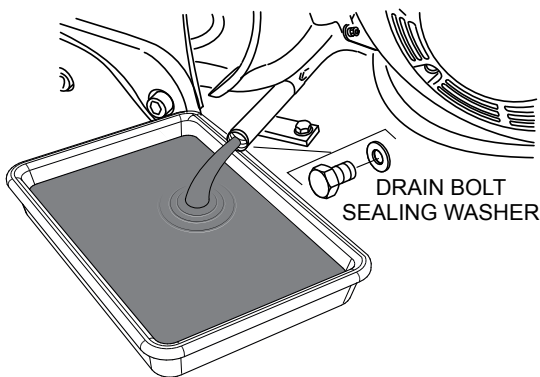

Figure 29. Draining Engine Oil
1. Remove the oil drain bolt (Figure 29) and sealing washer and allow the oil to drain into a suitable container.